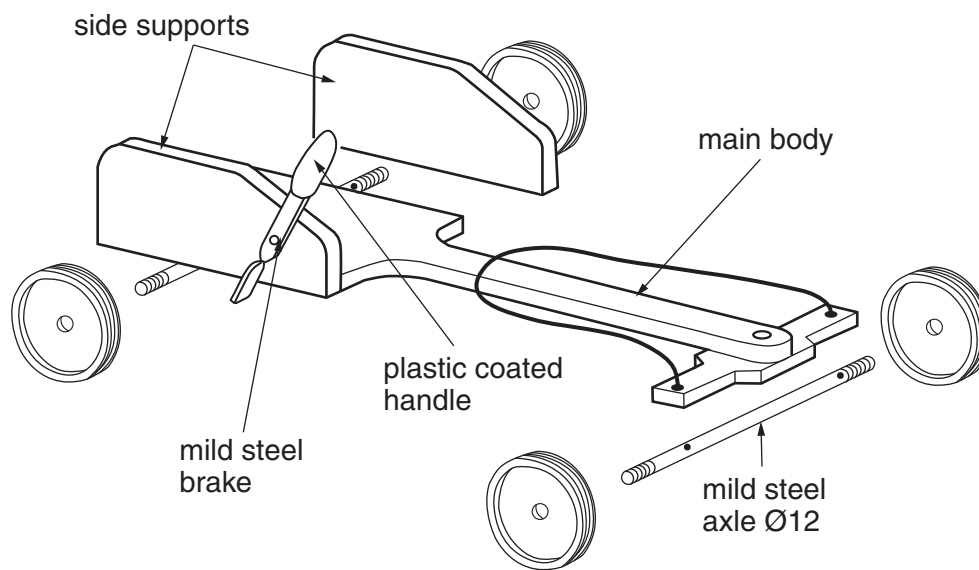

Fig. 7
- 11 Fig. 7 shows a design for a go-kart that is sold as a flat-pack product for self-assembly.